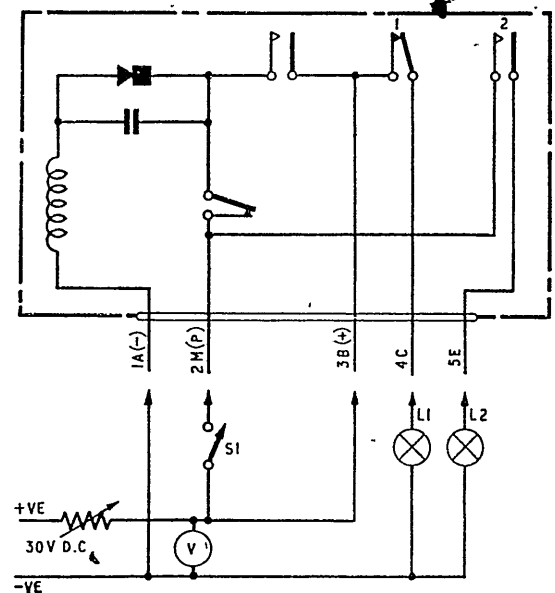

Fig. 1. Switch, Type D8413, circuit diagram and test circuit
1. This time delay switch has three pairs of circuit contacts, the circuit diagram (fig. 1) shows the switch internal wiring and the associated test circuit. The total motor run and circuit contact timing is detailed in para. 3.